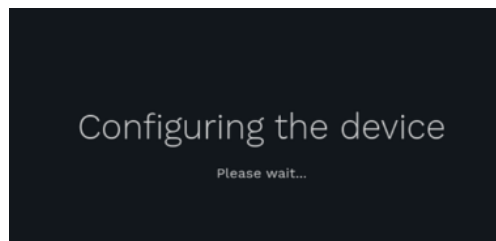

Fig. 22 - Device configuration
11. Wait for the device configuration (Fig. 22).